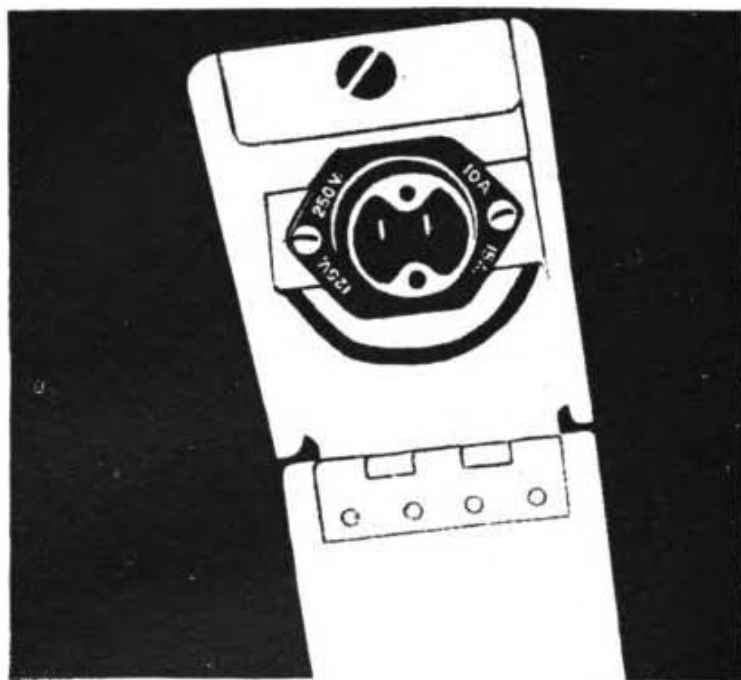

Figure 32.—Oil immersion-heater receptacle.
(9) OIL IMMERSION HEATERS.—An immersion heater is a 110-volt electrical unit which supplies heat to the oil in the tank. Some airplanes are equipped with permanent units in the tank. They need only to be connected to a 110-volt current supply, (fig. 32). When a portable